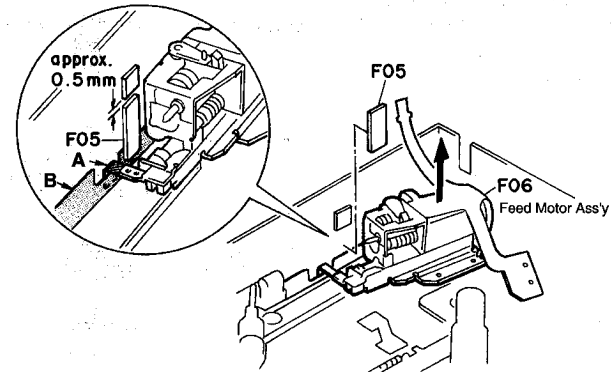

Fig. 2.9.3
- Insert the flexible cable of the Feed Motor Ass'y (part "A") between the chassis and the flexible cable "B" as shown in Fig. 2.9.3.